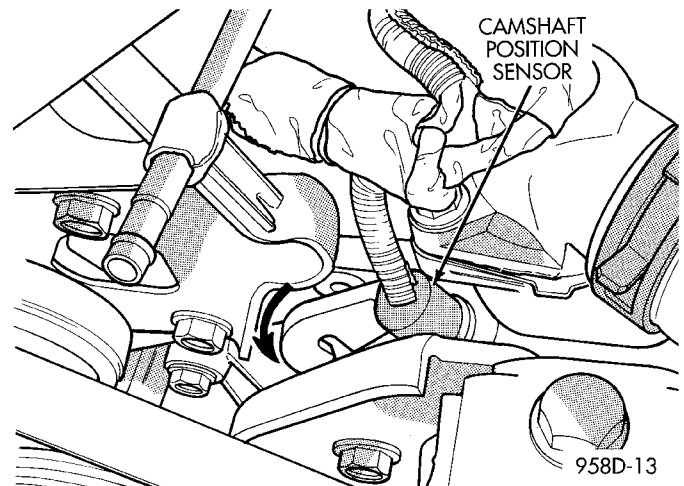

Fig. 7 Camshaft Sensor Removal/Installation
- (3) Rotate sensor away from block (Fig. 7).
- (4) Pull sensor up out of the chain case cover. **Do not pull on the sensor lead.** There is an O-ring on the sensor case. The O-ring may make removal difficult. A light tap to top of sensor prior to removal may reduce force needed for removal.